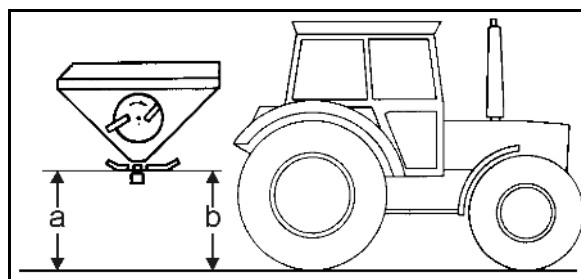

Fig. 61
The shorter spreading vanes are equipped with swivel blades that can be pivoted up without using tools (Fig. 61/1) and allow late topdressing of grain up to a crop height of 1 m **without** additional accessories.
3. Swivel the swivel blades (Fig. 61/1) of the spreading vanes to the required position for normal fertilising or late top dressing.